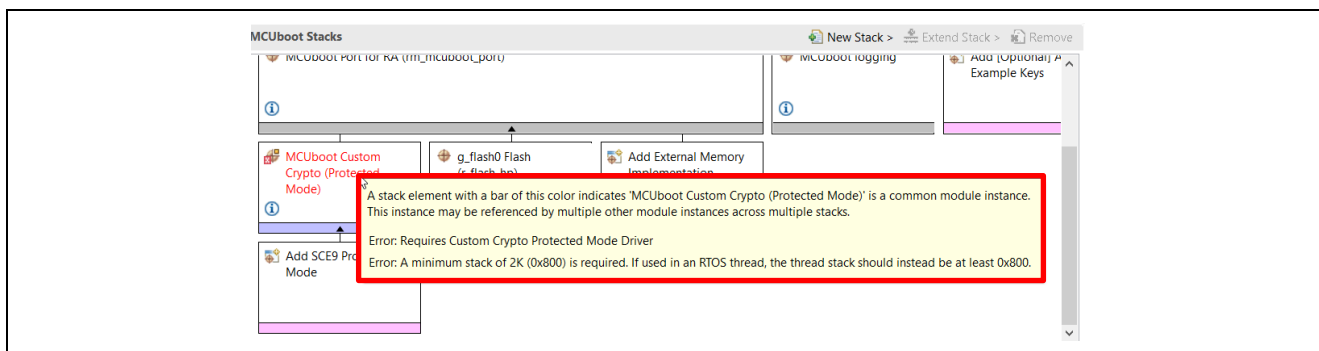

Figure 68. Dependencies of Mbed TLS (Crypto Only) Stack
4. Under the BSP tab, set up the stack and heap size to resolve the error when hover the cursor over **MCUboot Custom Crypto (Protected Mode)** stack as shown in **Figure 68**: